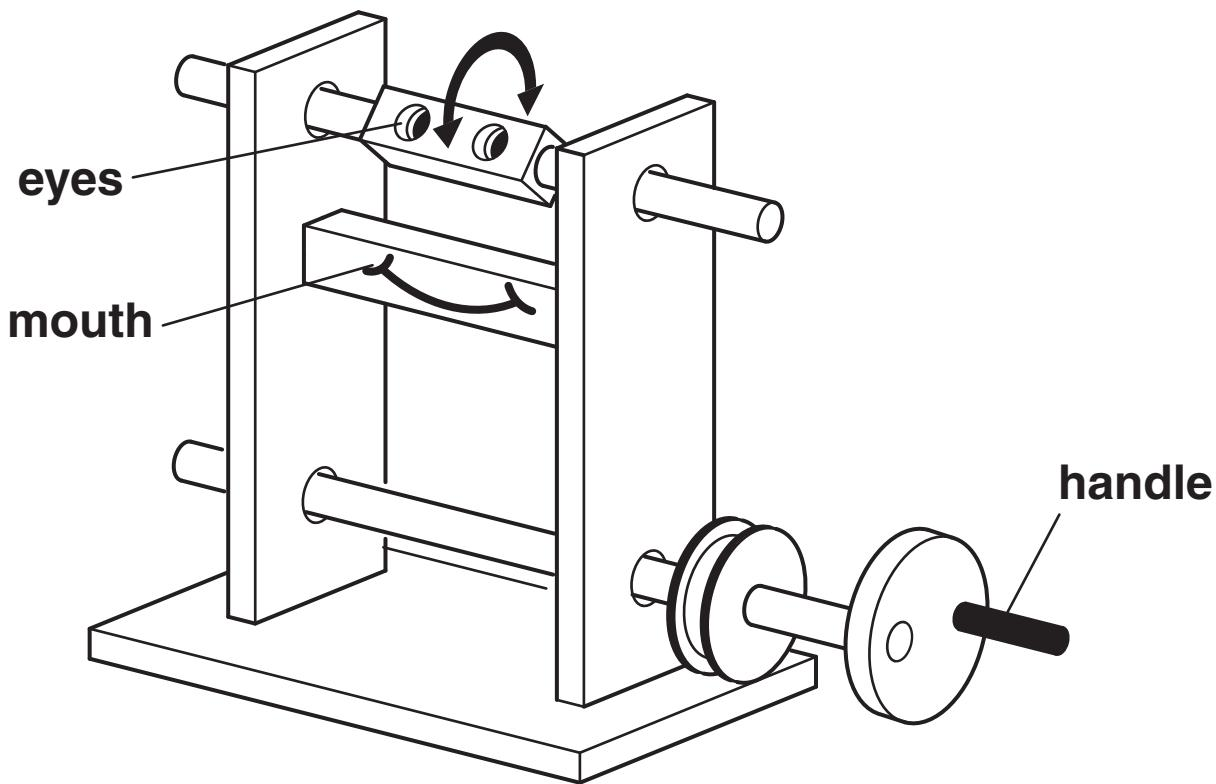

Fig. 8
Fig. 8 shows incomplete details of a moving face toy. The mouth is fixed but the eyes rotate.
- (c) Draw on Fig. 8 a method of rotating the eyes by using the handle.